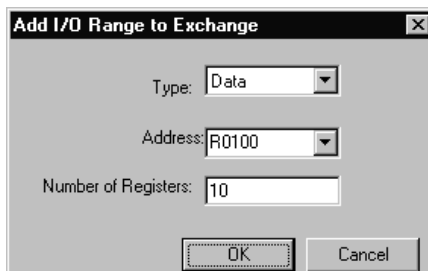

Figure 6.9 – Produced Exchange 1 Data Block Definition – Node 1
3. Click on the **Add Range** button, in the EGD Configuration dialog, to define a Data Block for Produced Exchange 1. Then fill in the parameters, as shown in Figure 6.9 below, and click **OK**.